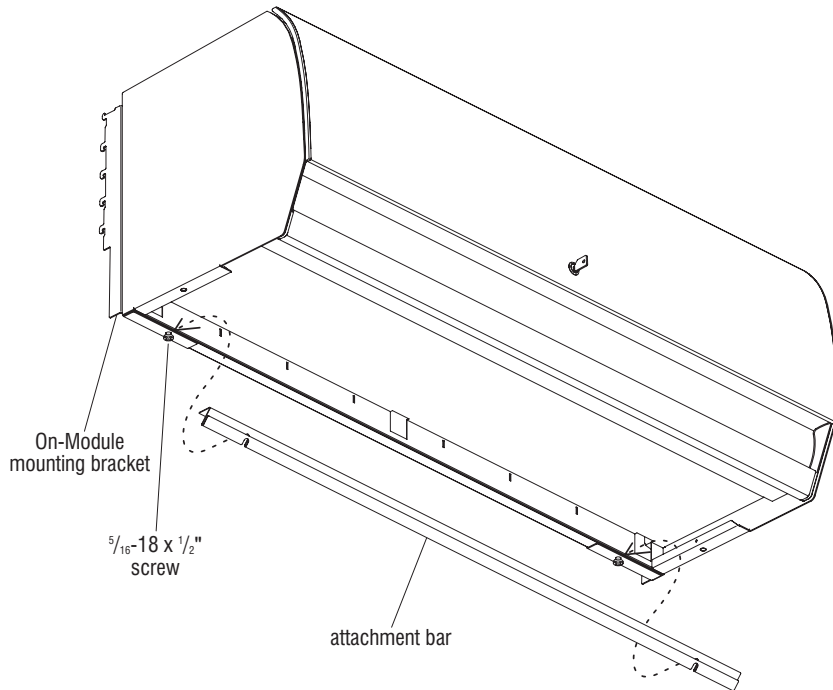

Figure 10
**Note:** Overhead units installed to panel systems with on-module mounting brackets may utilize a tack board or tool rail which is attached directly to the overhead via an attachment bar assembled to the overhead unit (Figure 10).
1. To install attachment bar to on-module mounting bracket, locate and loosen the two  $\frac{5}{16}$ -18 x  $\frac{1}{2}$ " screws which attach the mounting brackets to the underside of the Balance overhead unit. Turn each screw out about  $\frac{1}{8}$ " to allow for installation (Figure 10).
2. Orient the attachment bar as illustrated, align the slots in the attachment bar with the loosened screws and slide into place. Re-tighten the two screws to secure attachment bar in place (Figure 10).